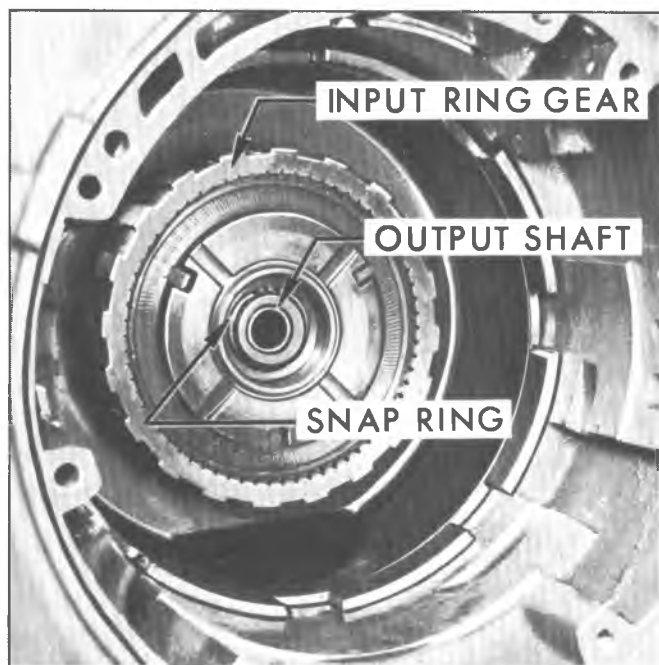

Fig. 34M--Removing Input Ring Gear to Output Shaft Snap Ring
9. Remove input ring gear to output shaft snap ring (fig. 34M).